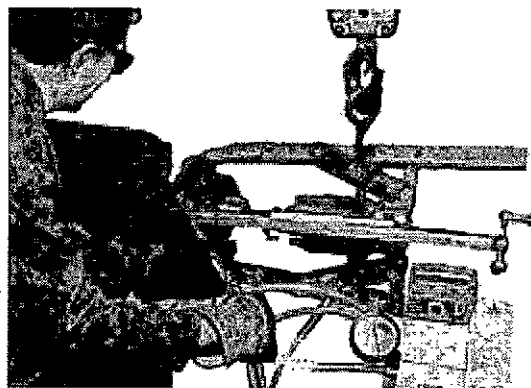

Figure 6-43
2. If the hub is to be replaced, remove the fan (See Item B) and install a suitable puller to the hub. Remove the two set screws in the hub over the key. Using a torch, rapidly heat the hub at the outer diameter while tightening the puller. (This must be done rapidly before the heat can expand the shaft.) Remove the hub. (Figure 6-43)